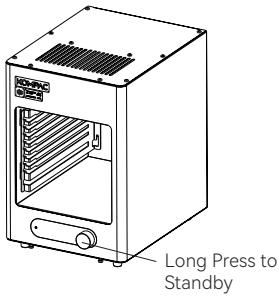

Figure 2
- ② Long-press the knob (as shown in Figure 2) until you hear a short beep. The fan will activate, and the LED display will show the previously set temperature and time.
- ③ If no further operation is performed, the device will begin heating until the burner temperature reaches the temperature displayed on the screen. Note: The timer function will not activate during this process.